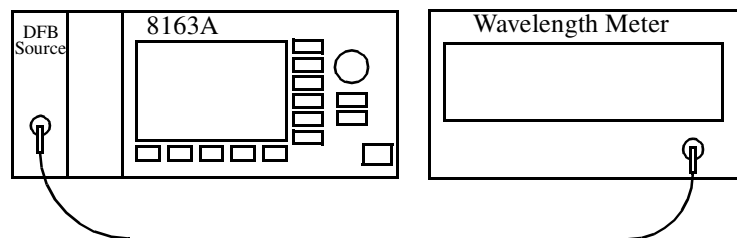

Figure 6 Wavelength Accuracy Setup
- 1 Set up your equipment as displayed in Figure 6.